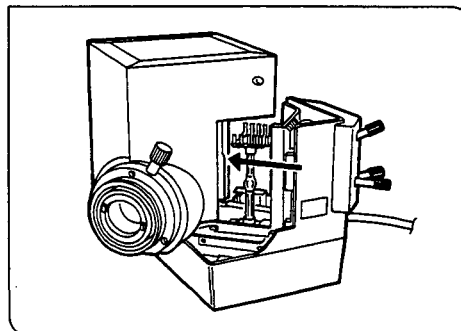

Fig. 12
3. Reattach the socket to the lamp housing by reversing the procedure in "Mounting the Collector Lens Unit" above. (Fig. 12)